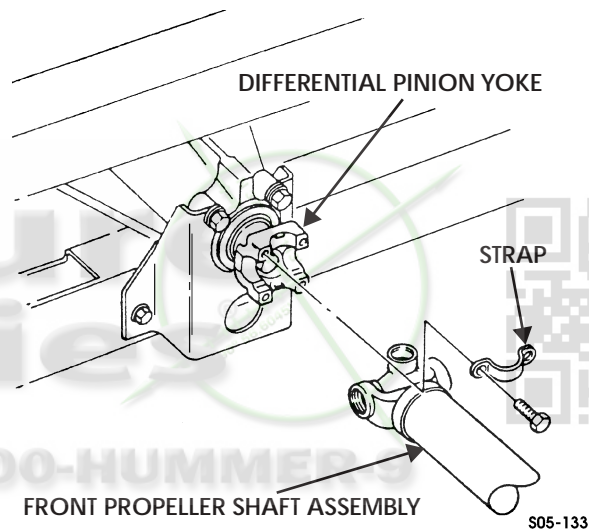

Figure 5-187: Front Propshaft
1. Remove four capscrews, two bearing straps, and front propeller shaft assembly from differential pinion yoke (Figure 5-187).